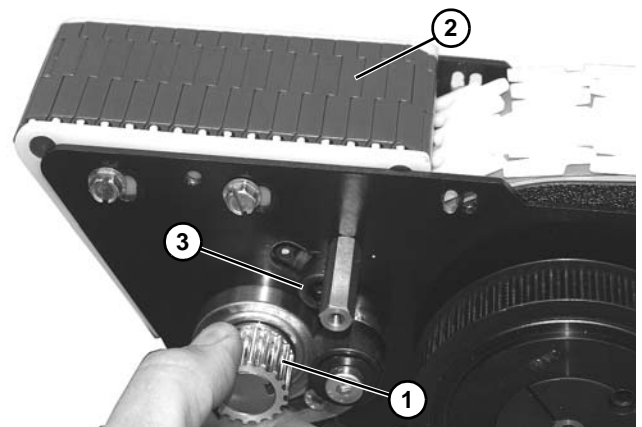

Figure 181
10. Rotate drive shaft (**Figure 181, item 1**) to verify tightness of belt (**Figure 181, item 2**). Belt should turn freely. Loosen idler socket head screw (**Figure 181, item 3**) and adjust, if necessary.